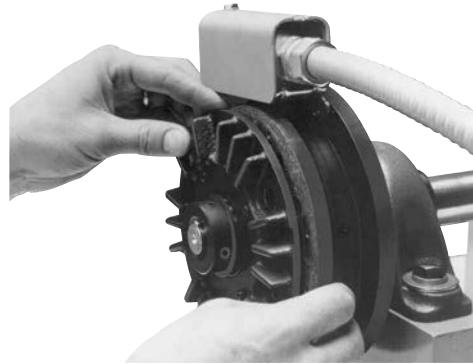

Figure 13
6. Insert two new friction material segments. The recessed holes should be facing away from the magnet body. (See Figure 13)